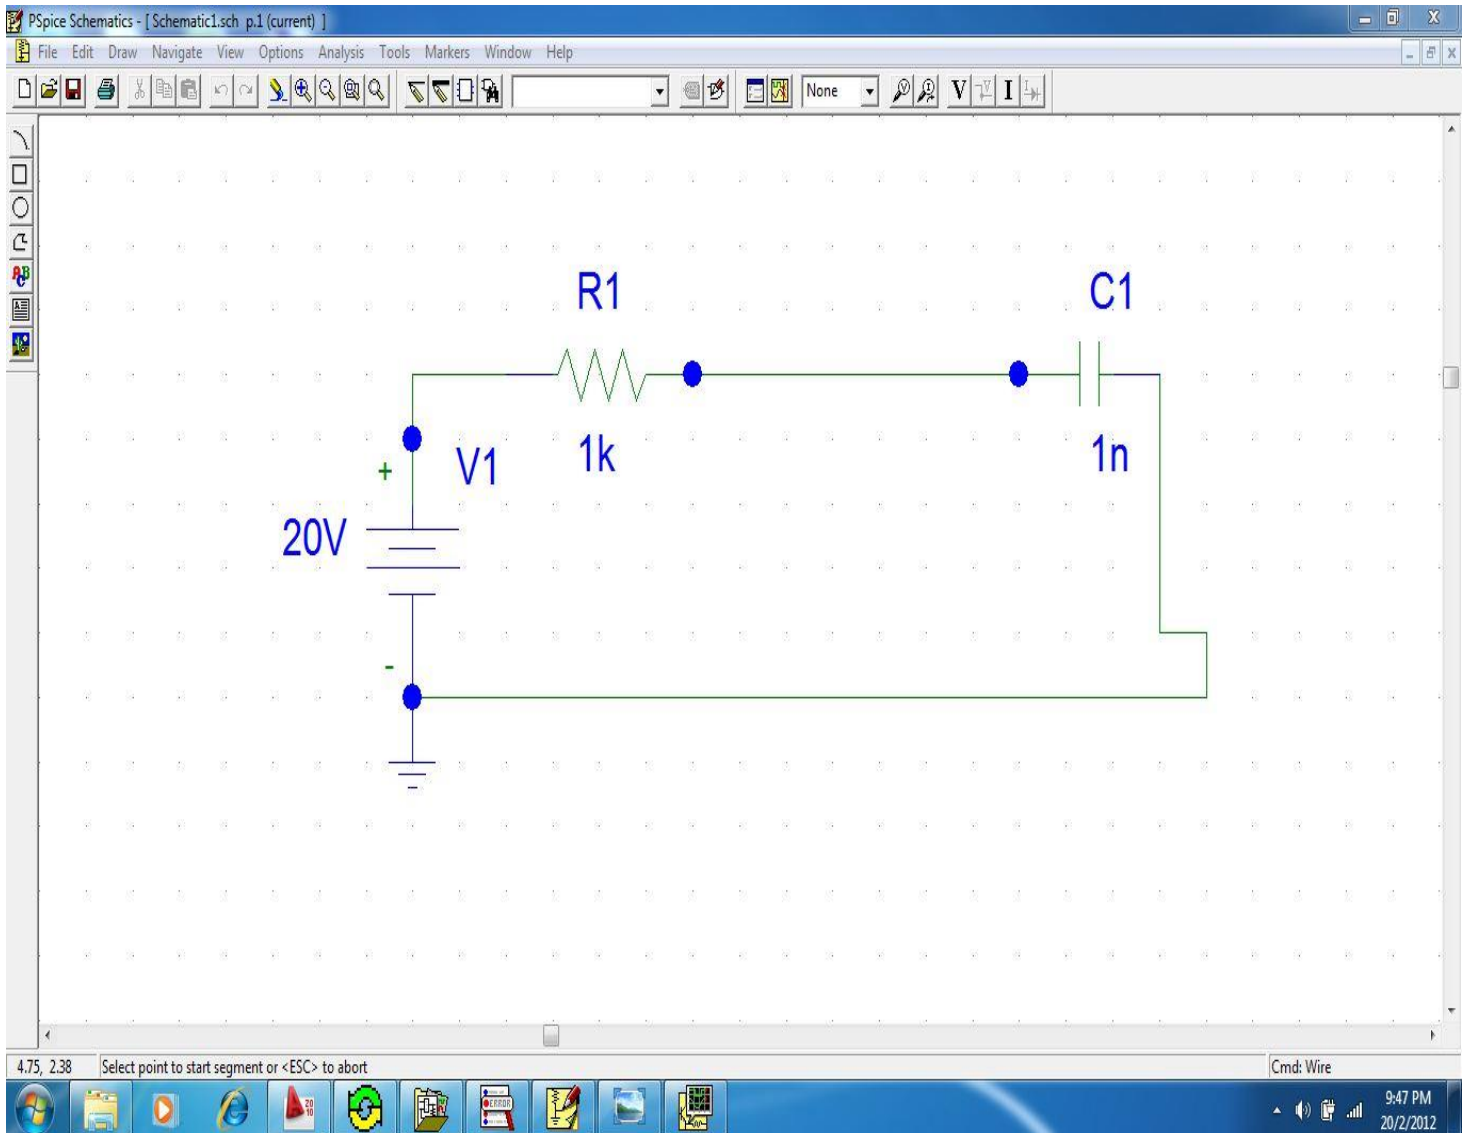

Figure-7
10. The Figure-7 shows a sample circuit, in which a DC voltage source, Resistor and a capacitor are placed, the nodes are shown by pspice by blue dots. The circuit is built by searching elements from **place a part button** and then drawing wire to connect them from **Draw wire button**.